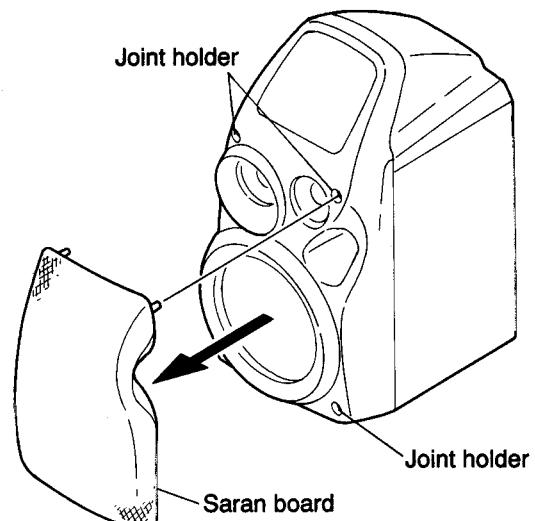

Fig. 5-59
■ **Removing the Saran board (See Fig. 5-59.)**